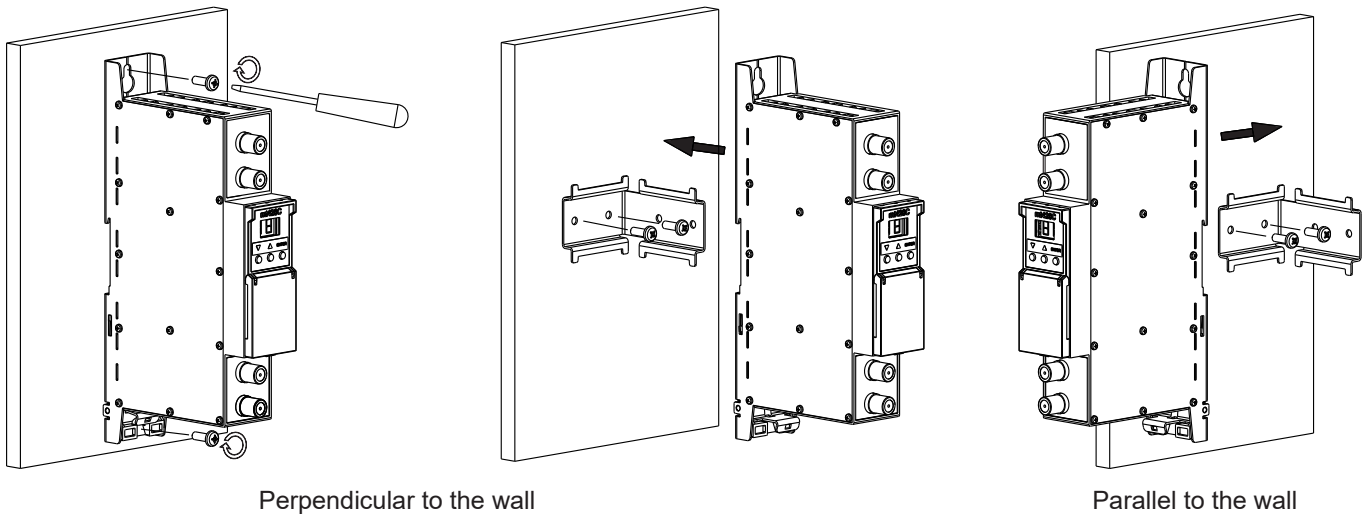
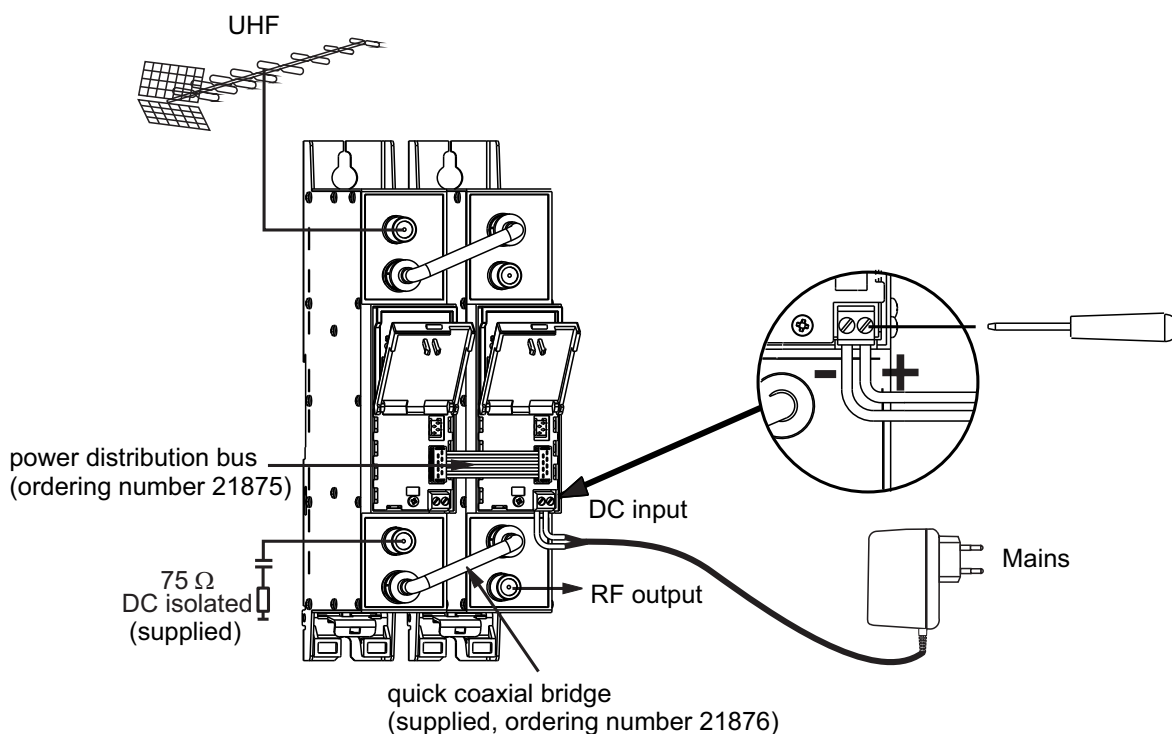

Figure 2. Mounting of amplifier
Figure 3. Powering of amplifier
The amplifier can be used as stand-alone unit as well as modular system powered from single power supply (Figure 3).
DC power should be connected, after at421 mechanically placed into position (Figure 2, 4 and connected Figure 3).
If RF IN connector (pos. 5, Figure 1) is not used, connect the 75Ω isolated load supplied (Figure 3).